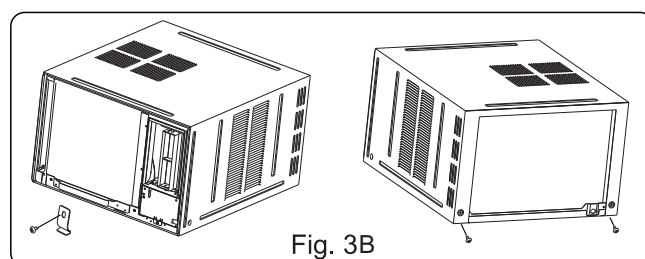

Fig. 3B
- Remove one screw on the chassis fixing bracket, then remove the chassis fixing bracket. Remove the two screws located on the back of the cabinet as shown in Fig.3B.